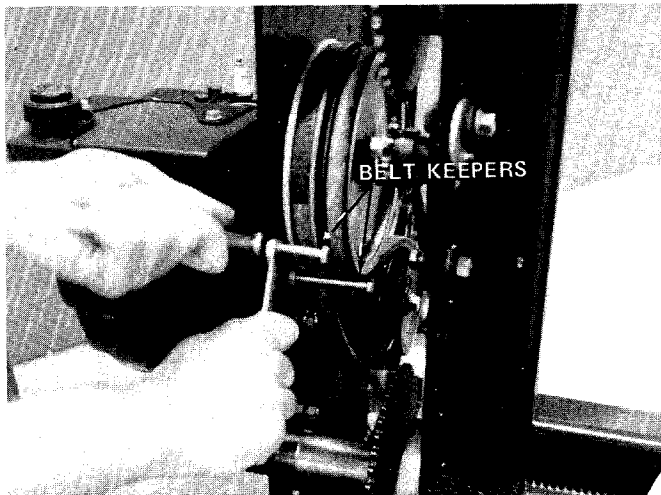

FIGURE 11
8. Remove the two belt keepers on the right hand side of frame using two 7/16" wrenches. See figure 11.